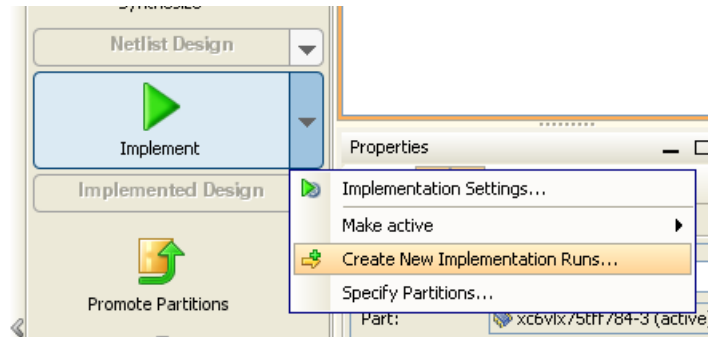

Figure 9-16: Create New Runs Command
- In the Flow Navigator, click **Create New Synthesis Runs** from the Synthesize pulldown menu, or **Create New Implementation Runs** from the Implement pulldown menu as shown in Figure 9-16.